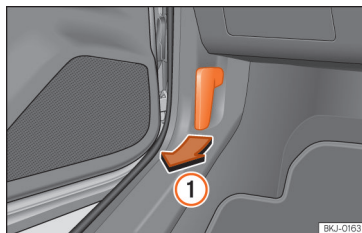

Fig. 169 Release lever in the driver's footwell area.
- Open the door and pull the lever that is underneath the instrument panel »» Fig. 169 ①.